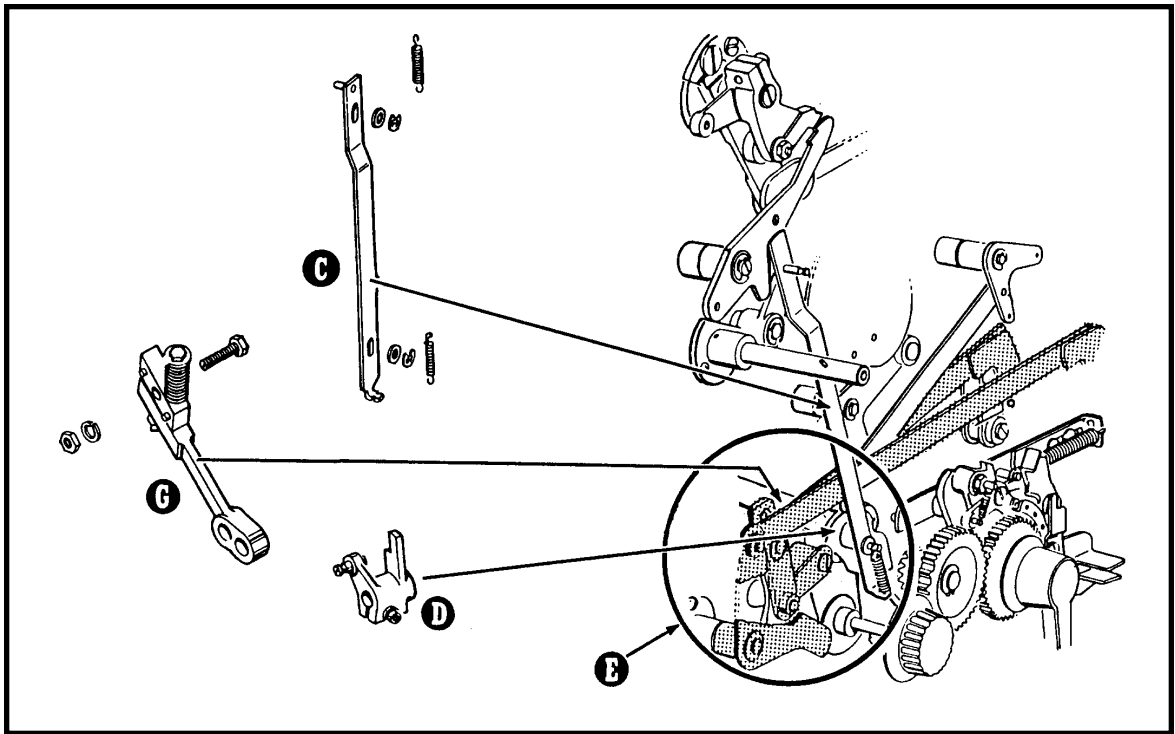

Figure 80 - Impression Cylinder Linkage
5. Remove the master cylinder link (D) (see Figure 80).
9. Remove the operator and non-operator side support arms (H) (see Figure 80).
2. Install the heavier of the two springs on the bottom of the master cylinder link (see Figure 80, callout D).